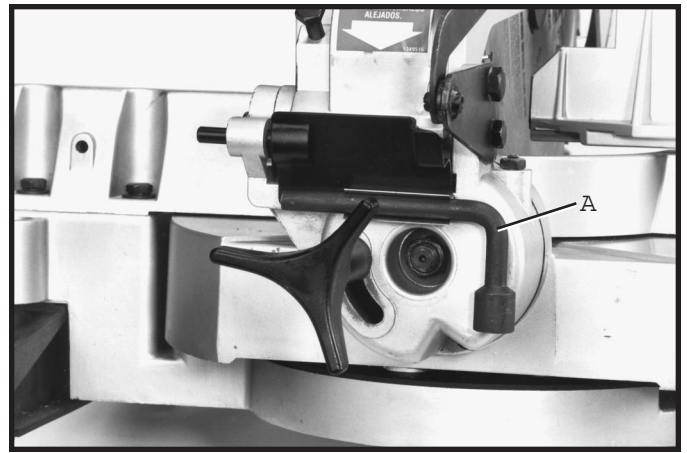

Fig. 39
A clip is provided on the rear of the saw and provides a convenient storage area for wrench (A) Fig. 39, as shown.